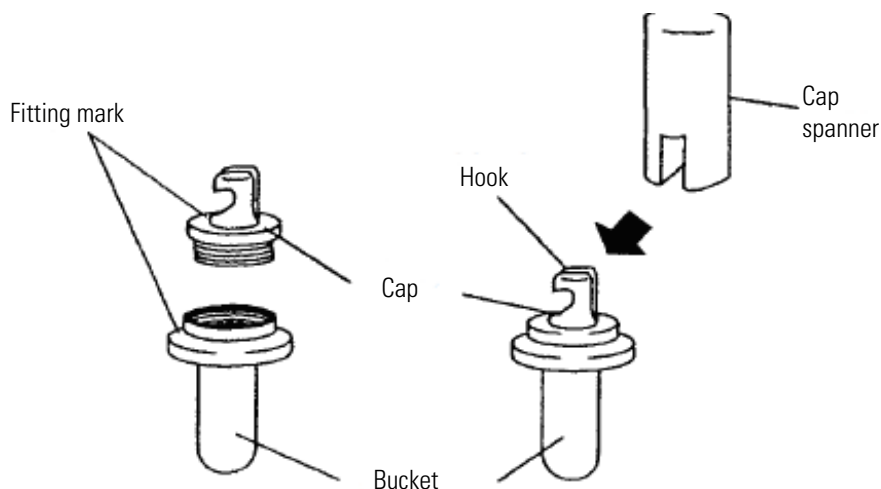

Figure 3-8 Tightening the bucket cap with cap spanner.
- b. Match cap numbers with bucket numbers. Tighten the cap into the bucket with the cap spanner inserted to the base of the cap and be coincided the fitting mark (small circle) on the bucket with that on the cap. In the case of S50-ST, the cap spanner is not required (Figure 3-8).
Install all of the numbered buckets in the corresponding position of the rotor. Make sure that both hooks properly hang on the pin (Figure 3-8)